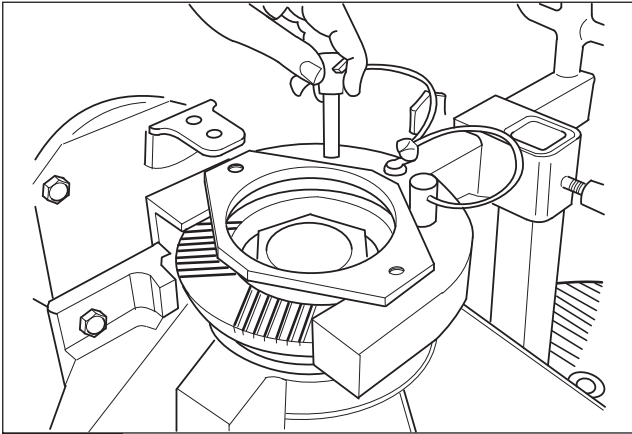

Fig. 4.14
9. Lock flange with service tool MST4400 - CT13 (Fig.4.14)